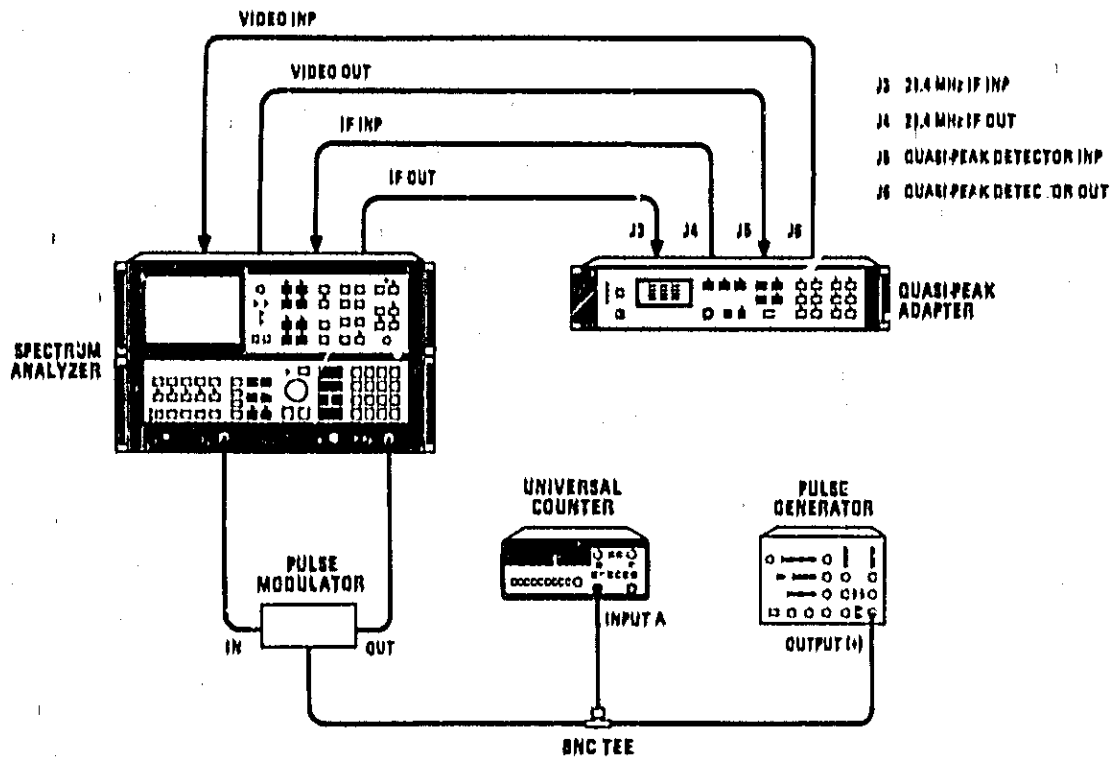

Figure 4-11. 200-Hz Pulse Test Setup
1. Connect equipment as shown in Figure 4-11.